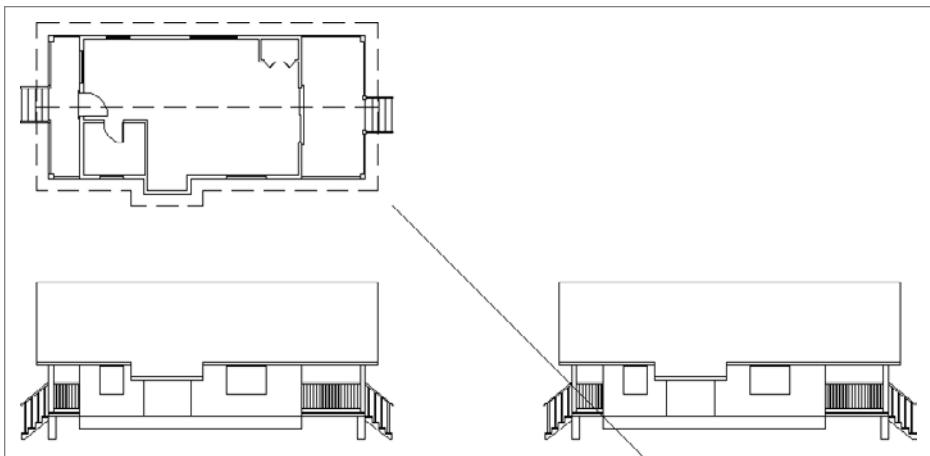

FIGURE 10.46 Making a copy of the side elevation (top) and adjusting the view (bottom)
11. Then move the cursor to any point on the base line of the south elevation. An *X* appears on the diagonal line where the ground line would intersect it if it were longer (see the top of Figure 10.46).
12. When the *X* appears, click to locate the copy. Press Esc to end the COPY command. Zoom out to include the copy, and then use Zoom Window to include the floor plan and south elevations (see the bottom of Figure 10.46). Press Esc to terminate the COPY command.